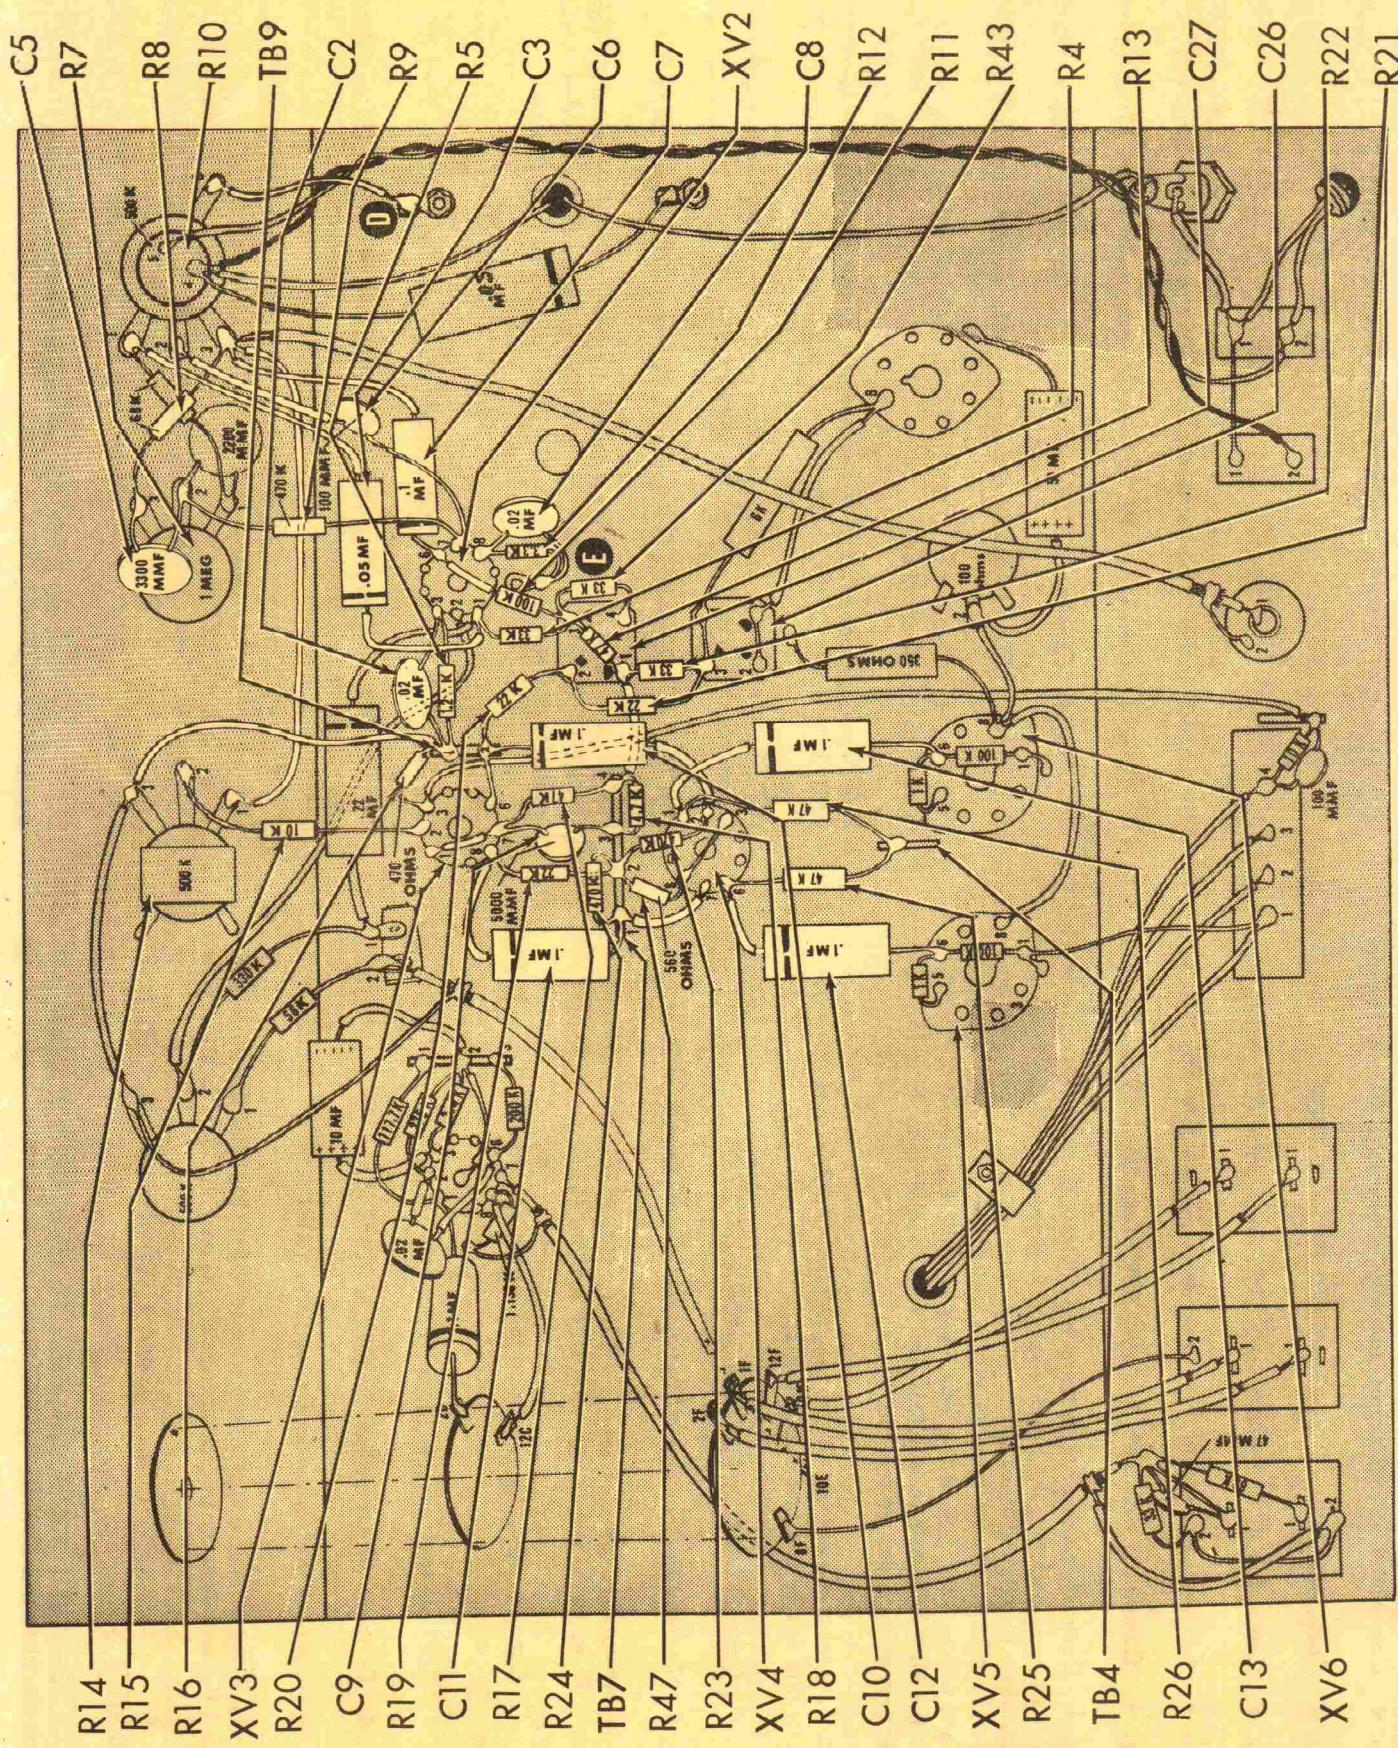

Fig. 5
() Fig. 5. Connect a 68K 5% resistor, R8, from R7-3 (C) to R10-3 (C). Use spaghetti on both ends.
() Fig. 5. Connect a $2700 \pm 10\%$ capacitor, C5, from R7-2 (C) to R7-3 (S).
() Fig. 5. Connect an 8" blue lead from R10-3 (C) to R14-1 (S). Run the lead in the bend of the chassis.
() Fig. 5. Connect a .1 mfd 20% capacitor, C7, from R10-3 (C) to XV2-6 (C). The capacitor should be dressed into the bend of the chassis. Use spaghetti on both ends.
() Fig. 5. Connect a .05 mfd capacitor, C3, from R10-1 (S) to XV2-1 (C). The capacitor should be placed above C7 at the front of the chassis. Use spaghetti on both ends.
() Fig. 5. Connect a 470K 5% resistor, R9, from XV2-7 (C) to R7-2 (S).
() Fig. 5. Connect a 100 mmf capacitor, C6, from R10-2 (S) to XV2-7 (S).
() Fig. 5. Connect a $47 \text{ k } 10\% \frac{1}{2} \text{W RES}$ piece of bare-wire from R10-6 (S) to ground lug "D" (S).
() Fig. 5. Connect a .02 mfd GMV capacitor, C8, and a 3.3K resistor, R12, from XV2-8 (S) to ground lug "E" (S).
() Fig. 5. Connect a 100K 10% resistor, R11, from C27-3 (C) to XV2-6 (S).
() Fig. 5. Connect a 33K 1/2W 10% resistor, R4, from C27-3 (C) to XV2-1 (S). Solder mounting lugs of C27 and C26 to chassis.
() Fig. 5. Connect a 1.2K resistor, R5, and a $.02 \text{ mfd } 20\%$ capacitor, C2, from XV2-3 (S) to TB9-1 (C).
() Fig. 5. Connect a 3" black lead from R14-3 (S) to TB9-1 (C).
() Fig. 5. Connect a 10K resistor, R15, from R14-2 (S) to XV3-2 (S).
() Fig. 5. Connect a 470Ω resistor, R16, from XV3-3 (S) to TB9-1 (S).
() Fig. 5. Connect one of the two matched 22K resistors, R20, from TB9-2 (C) to C27-2 (C). Connect the other 22K resistor of the matched pair, R19, from XV3-8 (C) to TB7-2 (C).
() Fig. 5. Connect a bare wire from XV3-6 (S) to TB9-2 (C).
() Fig. 5. Connect one end of a 47K resistor, R17, to TB7-4 (C). Pass the other end through XV3-7 (C) and connect to XV3-1 (S).
() Fig. 5. Connect a $1.5 \text{ k } 10\% \frac{1}{2} \text{W}$ resistor, R18, from TB7-4 (C) to TB7-3 (C).
() Fig. 5. Connect a $5000 \text{ mmf } 20\%$ capacitor, C9, from TB7-3 (S) to XV3-7 (S).
() Fig. 5. Connect a 2" blue lead from C27-1 (C) to TB7-4 (S).
() Fig. 5. Connect a 33K 1/2W resistor, R43, from C27-4 (S) to C27-3 (C).
() Fig. 5. Connect a 47K resistor, R13, from C27-1 (C) to C27-3 (S).
() Fig. 5. Connect a 22K resistor, R21, from C26-3 (C) to C27-2 (S).
() Fig. 5. Connect a 33K 1W resistor, R22, from C26-3 (S) to C27-1 (S).
() Fig. 5. Connect a .1 mfd 10% capacitor, C10, from TB9-2 (S) to XV4-2 (C).
() Fig. 5. Connect a .1 mfd 10% capacitor, C11, from XV3-8 (S) to TB7-1 (C).
() Fig. 5. Connect a bare lead with spaghetti from TB7-1 (C) to XV4-7 (S).
() Fig. 5. Connect a 470K resistor, R24, from TB7-1 (S) to TB7-2 (C).
() Fig. 5. Connect one end of a 560Ω resistor, R47, to TB7-2 (C). Pass the other end thru XV4-8 (S) and connect to XV4-3 (S).